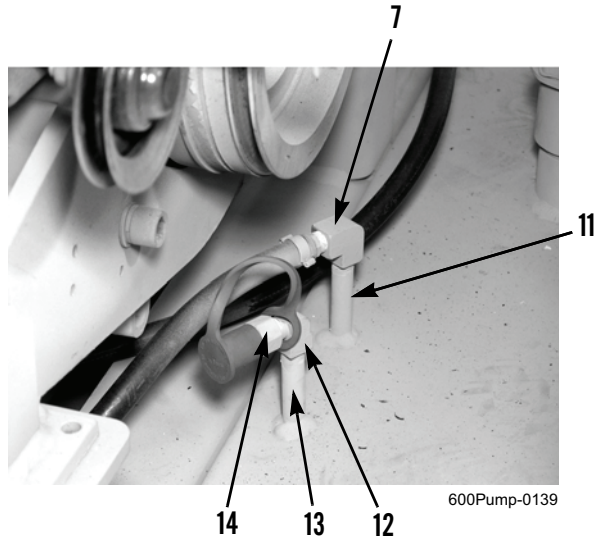

Figure 15. Fuel Tank Fittings.
6. Install elbow fitting (Figure 15, Item 12) and quick disconnect fitting (Figure 15, Item 14) on fuel tank nipple (Figure 15, Item 13).
7. Install elbow fitting (Figure 15, Item 7) on fuel tank nipple (Figure 15, Item 11).